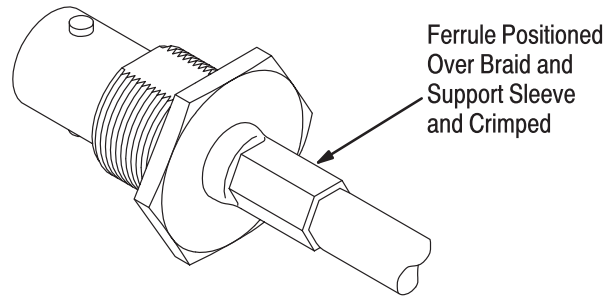

Figure 6
4. Slide ferrule forward over braid and support sleeve; then crimp ferrule using hand tool 354940-1 (fitted with the appropriate die assembly). See Figure 6.